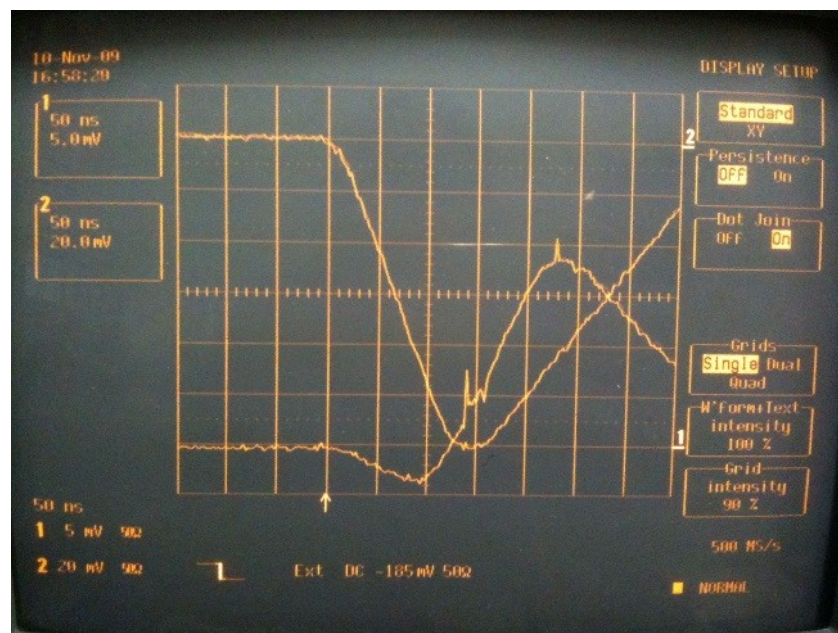

Figure 4: Input signal and CFD monitor output.
Connect the CFD monitor output (M) to the scope CH2 and reproduce Fig. 4.